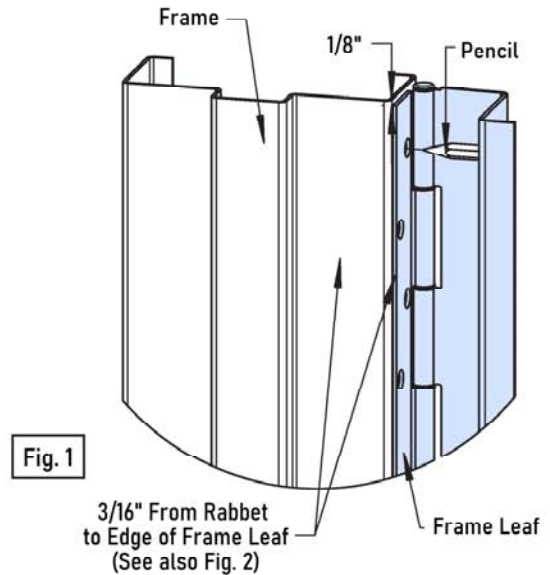

Fig. 1
A. Place hinge frame leaf on frame face. Position top of hinge 1/8" maximum below header. Place hinge firmly against face of frame. Position frame leaf edge 3/16" from rabbet as shown (Fig. 1 & 2).